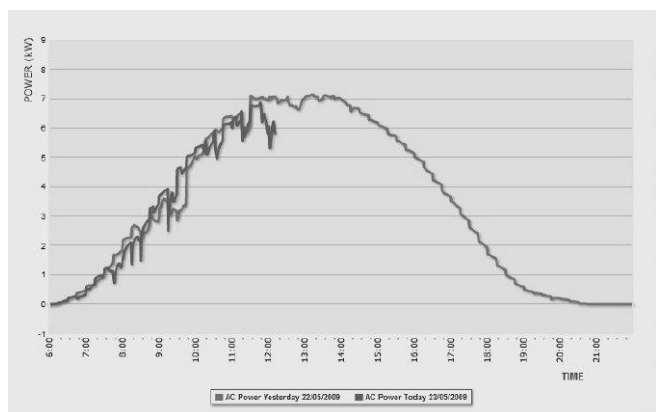

Fig. 2
- 2 On the middle (Fig.2). The plant daily power graph which allows to compare the actual AC power vs. the day before AC power. The graph is available as either a line or an area graph. The showed power may come directly either from the inverters or from the energy meters (selectable).